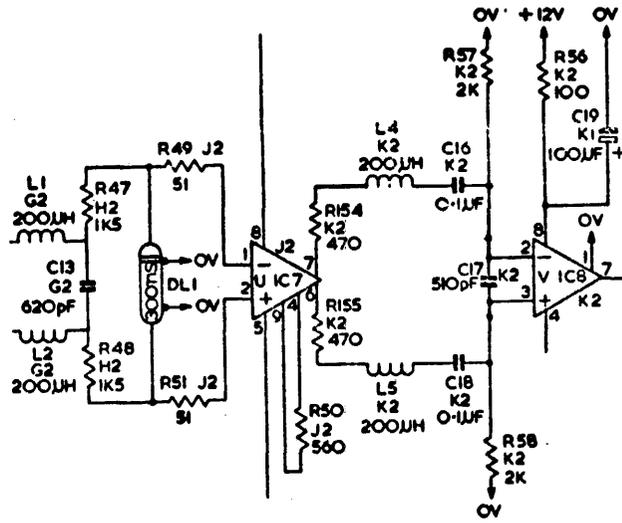

FIGURE 3.
8. Update the schematics as shown in Figure 3.
23. Update the schematics as shown in figure 3.